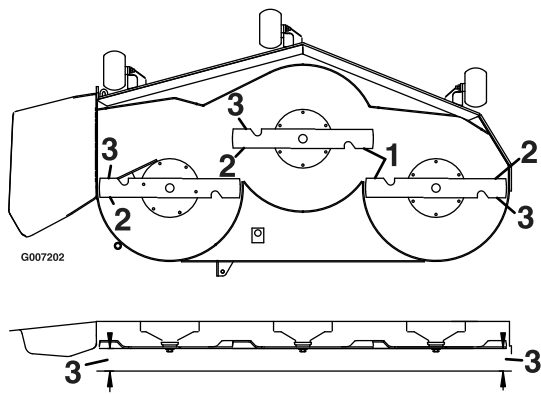

Figure 69
4. Measure between the outside cutting edges and the flat surface (Figure 69).